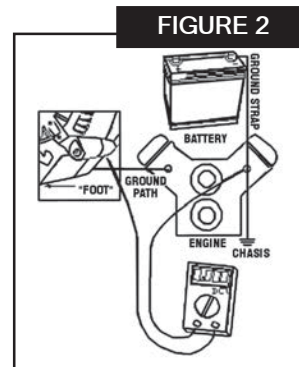

FIGURE 2
- ◆ Apply a moderate load to the charging system (i.e., high beam headlights and A/C for example) and bring the engine to 1,500rpm. Using a digital voltmeter measure the DC voltage from a metal point on the case of the alternator to the negative battery terminal. Readings higher than 0.10VDC indicate a poor ground connection. Check the ground path including any paint or anodizing on the brackets, the engine ground strap, and the ground cable from the frame to the battery. (See figure 2).